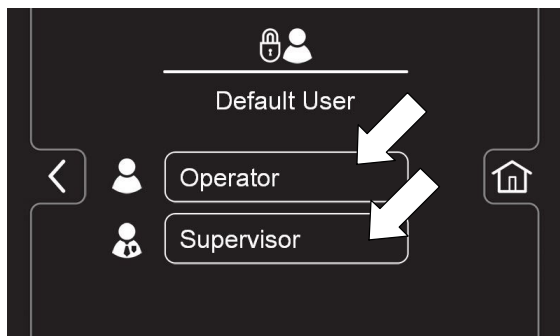

FIG. 155
- c. Select the desired default user by pressing the Operator or Supervisor button (Figure 155).